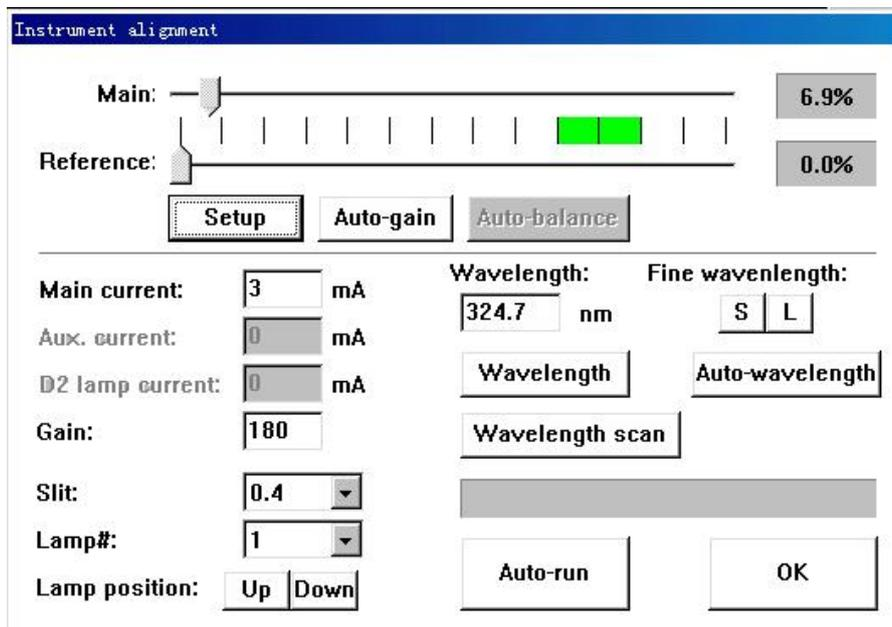
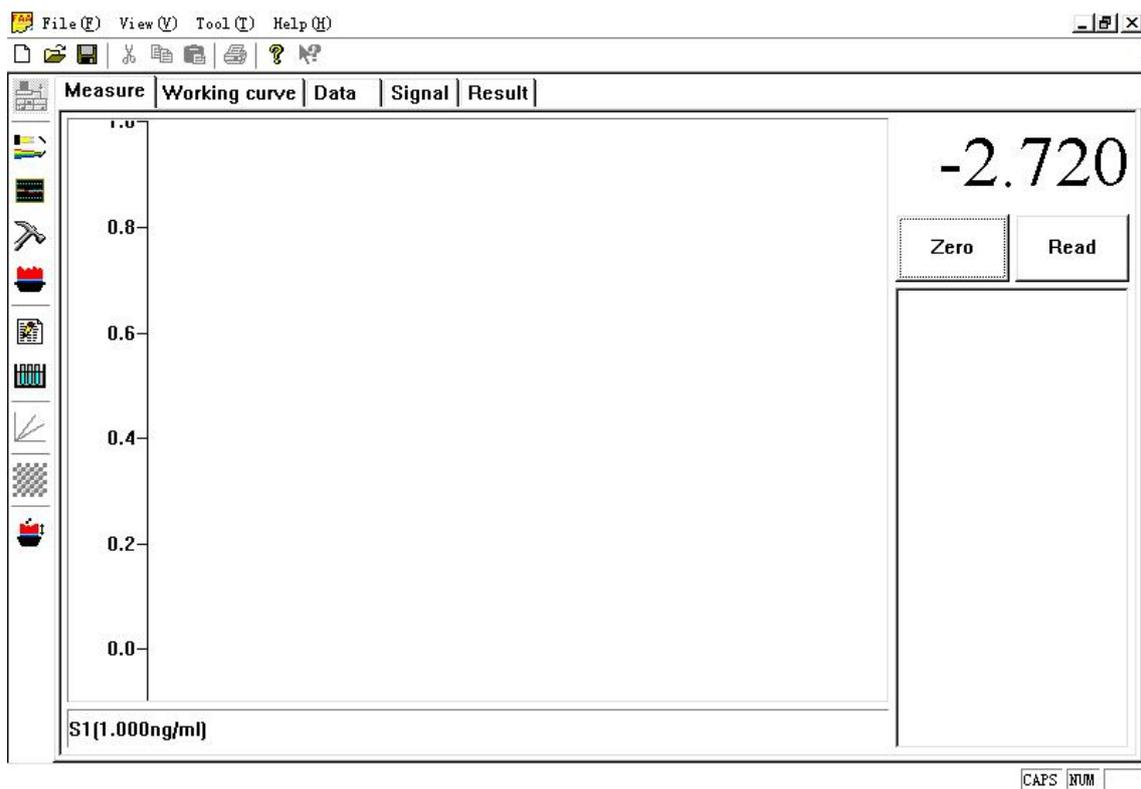
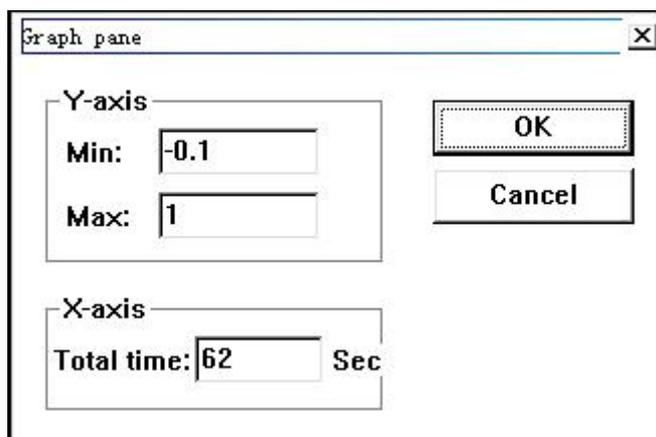
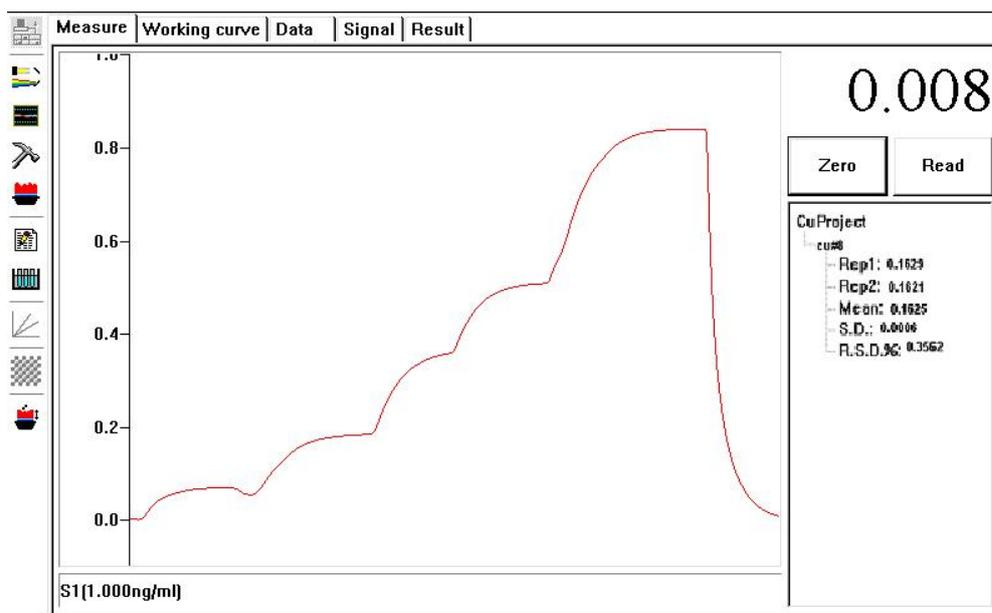

Fig. 4-18
Fig. 4-21
Fig. 4-22
Fig. 4-29
After every parameter in Instrument Alignment page is set well as shown in Fig. 4-18, click “Finish” to enter into measuring page of flame analysis as shown in Fig. 4-21. Double click the black part in the page to modify the length of axes (X: Time; Y: Absorbance), referring to Fig. 4-22.
Instrument Alignment: Click it to display the page of Fig. 4-18 to perform proper alignment.
Baseline stability: Click this icon to check the baseline stability. When all the parameters of instrument wavelength, energy (100%), gain (negative high voltage) etc are adjusted in normal case on the page of Fig. 4-18, click this icon to show Fig. 4-22.
Flame AA method: Click this icon to set the flame type, acetylene flow, oxygen flow (only when air-acetylene-oxygen is selected, the parameter can be set.), flameout. Refer to Fig.4-26. After setting the flow parameters, click “Setup” and the ignition will be automatically run. Click “Ok” automatically back to Fig. 4-21.
- 3) Put the aspirating capillary into the standard blank: $1\mu\text{g/ml}$, $3\mu\text{g/ml}$ and $5\mu\text{g/ml}$ standard solutions in sequence and click "Read" key by each time as shown in Fig. 4-29. If the absorbance value is too big to exceed the Y coordinate during reading out, double click the page of Fig. 4-21 to display Fig. 4-22. Use the mouse to select and input the corresponding modified values and the coordinate times.
- 4) To view the established standard curve, click "Working curve" in Fig. 4-21 and display Fig.